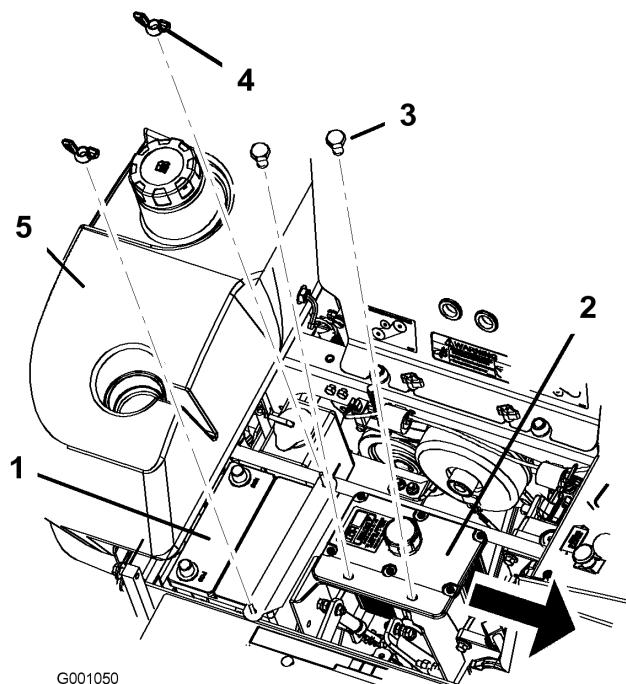

Figure 39
6. Remove both wing nuts (1/4 inch) securing the battery clamp (Figure 39).
7. Remove the two bolts holding the hydraulic tank in place (Figure 39).
1. Position battery in the tray with the terminal posts opposite from the hydraulic tank (Figure 39).
6. Secure battery with J-bolts, hold down clamp and 2 washers (1/4 inch), and 2 wing nuts (1/4 inch) (Figure 39).